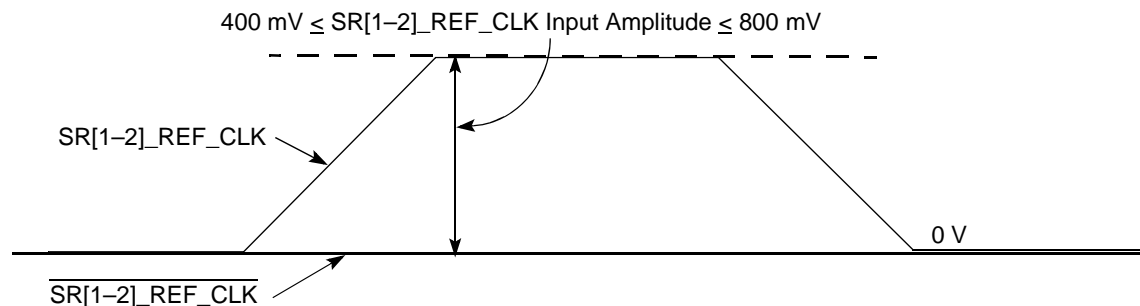

Figure 9. Single-Ended Reference Clock Input DC Requirements
- The $SR[1-2]_{REF_CLK}$ input average voltage must be between 200 and 400 mV. Figure 9 shows the SerDes reference clock input requirement for single-ended signaling mode.